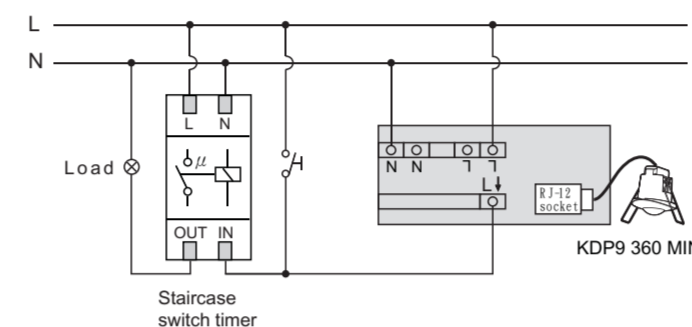
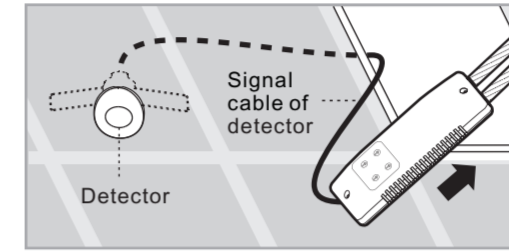

FIG.9
FIG.16
- KDP9 360 MINI controls staircase switch timer (time1 should be set to $\sqrt{3}$) (See FIG.9).
3.3.4 Feed cables through the ceiling and refer to wiring diagram (See FIG.5 - FIG.9) to connect properly. Make sure signal cable through the ceiling and insert into power box (See FIG.16).